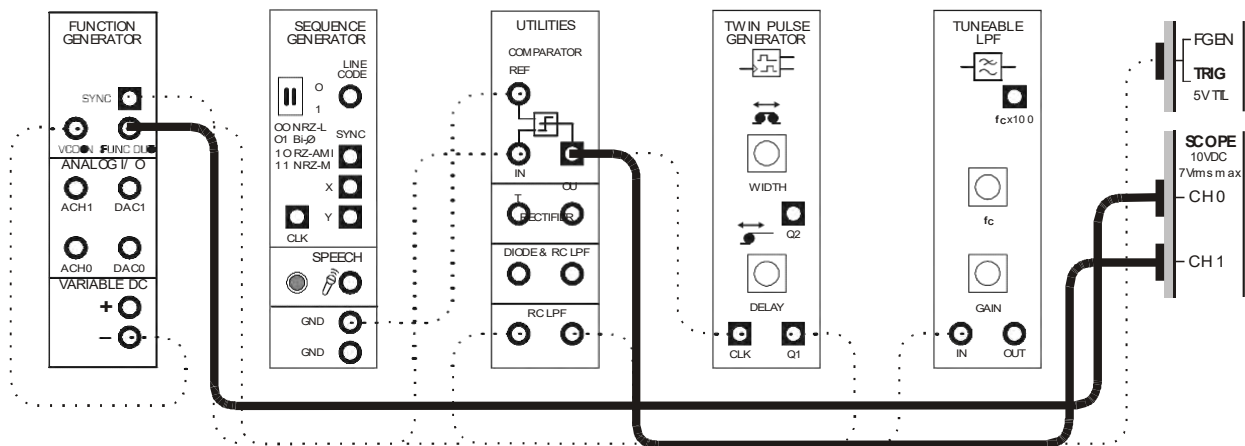

Figure 8
29. Rearrange the scope's connections to the set-up as shown in Figure 8 below.